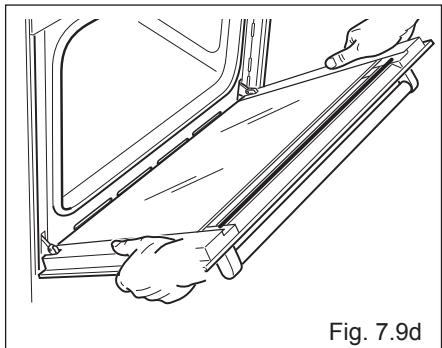

Fig. 7.9d
- Hold the door as shown in fig. 7.9d.